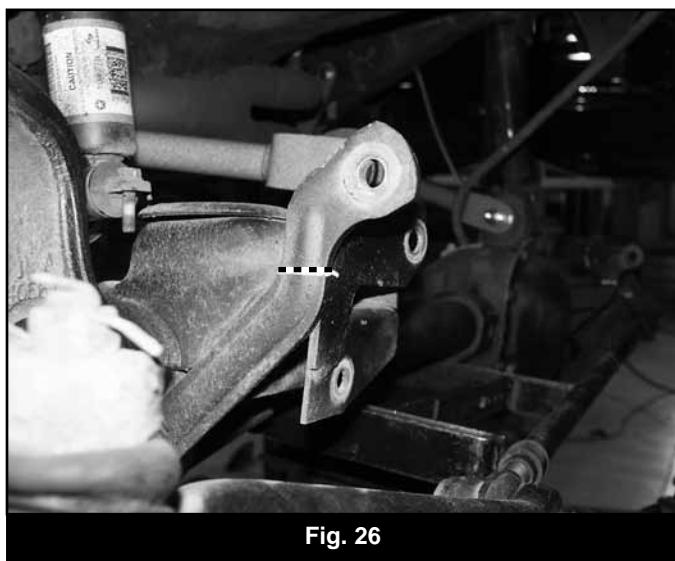

Fig. 26
66. With the driver's side link mount removed, use the cut portion as a template by aligning the hole and the profile of the cut piece with the passenger's side mount. Mark the cut line on the passenger's mount (Fig 26). Note: A $\frac{1}{2}$ " bolt can be inserted in the mounting holes of the ends to aid in aligning them.